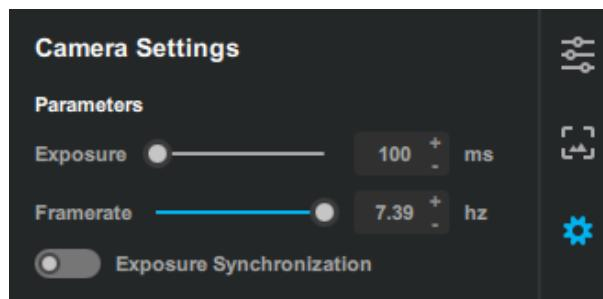

Figure 11.13.1: Figure: IRM camera settings panel in Bluelake.
3. Configure the IRM camera using the settings in the right toolbar and adjust the recording settings in the top toolbar (see Figure 11.13.1).